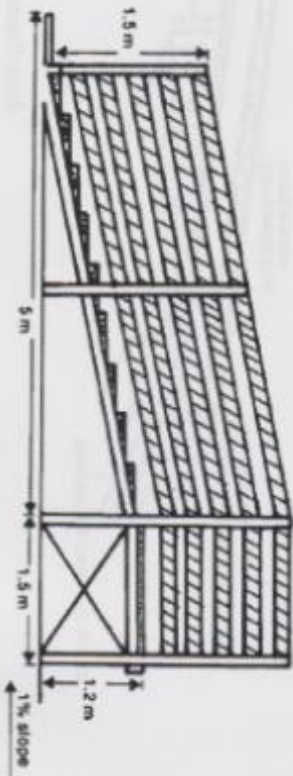

Figure 1. Loading ramp
**A well designed loading ramp is essential on any property running cattle. The design in this Agriculture Note (figures 1 and 2) is similar to the loading ramp built at Rutherglen Research Station.**